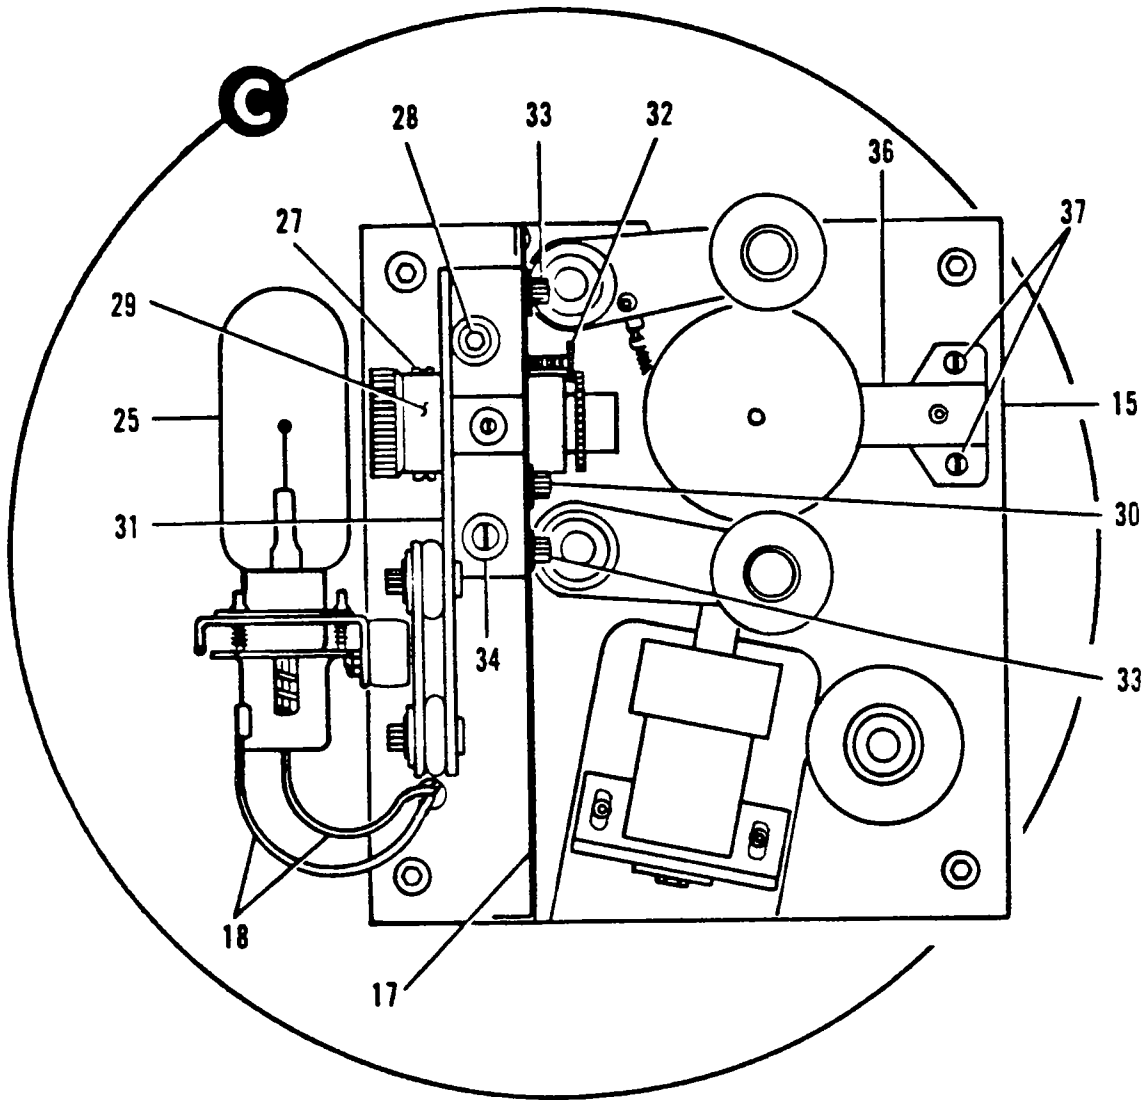

FIGURE 3-3. PROJECTOR PARTS LOCATION
4-11. Removal of Sound Head and Solar Cell Assemblies. (15, Figure 3-3)
1. Remove bracket (17, Figure 3-3) by removing two phillips head screws and two allen screws.
2. Disconnect two exciter lamp leads (18, Figure 3-3) at terminal block TB-3. If solar cell assembly (36, Figure 3-3) has not been removed, disconnect wiring at terminal block TB-3.